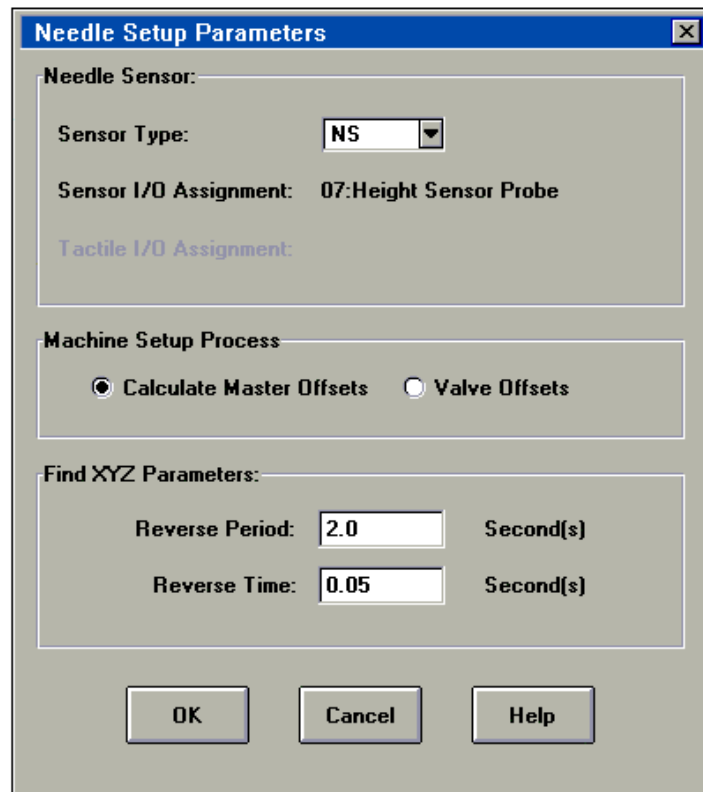

Figure 6-5
- ▶ The Needle Setup Parameters dialog box opens. See Figure 6-5.
3. In the Setup Parameters dialog box, shown in Figure 6-5, select Valve Offsets in the Machine Setup Process section of the dialog box.